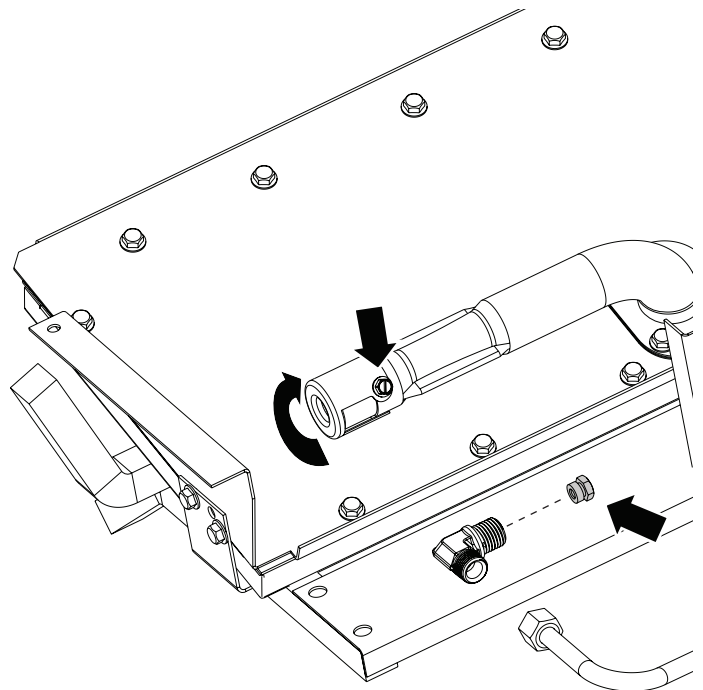

Figure 8
3. Remove the gas supply tube at the venturi using a 9/16" open-end wrench. Remove the brass elbow from the venturi air shutter and replace the main burner orifice with the conversion orifice supplied (2.25mm for BFE2124, #39 for BFE30). **See Figure 8.** Using a 1/4" hex driver, loosen the air shutter retaining screw and fully open the air shutter. **See Figure 8.** Refasten air shutter retaining screw, re-attach brass elbow, and re-attach the gas supply tube.